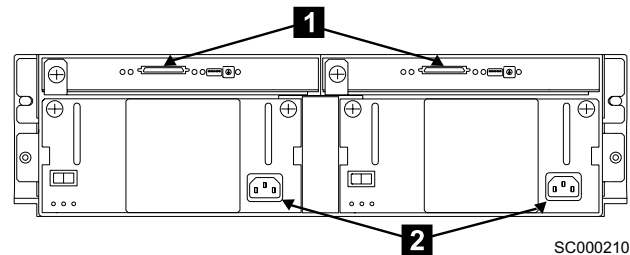

Figure 7. Power cables and SCSI connectors on the 2104 Model DS4
2. Ensure that the power cables **2** are plugged into each fan-and-power-supply assembly. See Figure 7. Also ensure that the other ends of the power cables are unplugged from the power distribution unit or battery-backup unit in the rack. See the installation document for the rack or host system.